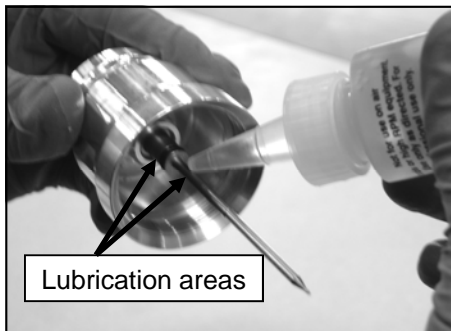

Figure 6: Lubricate thick part of needle and needle o-rings
6. Lubricate the fluid needle as indicated in figure 6 and reinstall the trigger housing, along with the fluid needle and trigger piston.